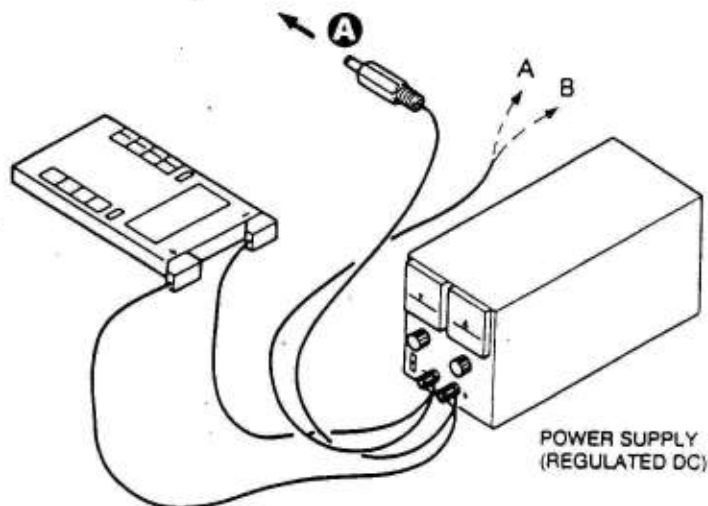

Fig. 1
1. Remove the mechanism ass'y from the main body, and attach the power supply and digital tester as illustrated. (See Fig. 1.)